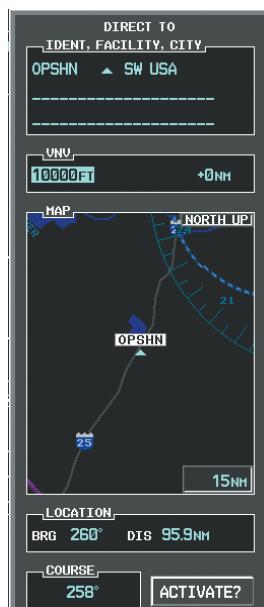

Figure 5-121 Enter VNV Altitude
- d) Turn the large **FMS** Knob to place the cursor in the VNV altitude field as shown in Figure 5-121.